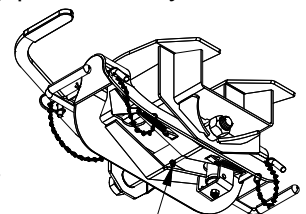

Figure F1: Underside
- Grease the saddle through the grease zerk approximately every six months with multi-purpose grease. This allows the coupler to pivot freely, see Figure F1.